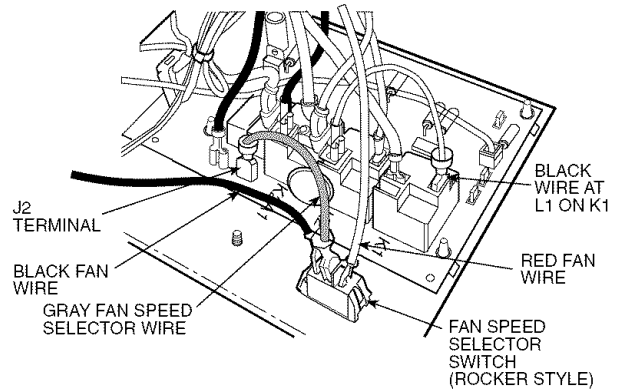

Fig. 4 — Fan Speed Selector Wire
1. Remove the gray fan speed selector wire by disconnecting it from the J2 terminal next to relay K3 on the PCB (printed circuit board) and the fan speed selector switch. See Fig. 4.
NOTE: The gray wire will either be connected to a rotary fan speed selector switch on top of the control box OR a rocker fan speed selector switch (as shown in Fig. 4) on the front of the control box cover.
2. Attach the gray wire from the relay assembly to terminal J2 next to relay K3 on the PCB. See Fig. 4.
3. Remove the black fan wire from the fan speed selector switch (rotary or rocker) and re-attach it to terminal 4 on the relay assembly. See Fig. 4 and 5.
4. Remove the red fan wire from the fan speed selector switch (rotary or rocker) and re-attach it to terminal 6 on the relay assembly. See Fig. 4 and 5.
8. Re-attach the black wire (removed in step 6 above) to open goal post terminal of L1 on relay K1. See Fig. 4.